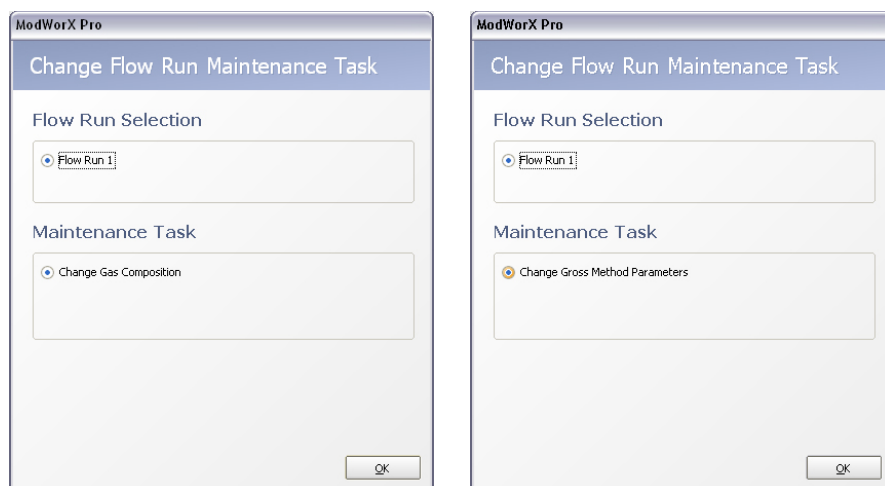

Figure 12.2
2. Click **Yes** at the Enter Maintenance Mode prompt. The Change Flow Run Maintenance Task screen will appear (Figure 12.2, page 168). The maintenance task displayed will vary, depending on the fluid property calculation method selected. For example, when calculating gas flow with the AGA-8 Detail method is used, the maintenance task will be “Change Gas Composition.” When the AGA-8 Gross method is used, the maintenance task will be “Change Gross Method Parameters.”
1. If Change Gas Composition is not displayed in the Maintenance Task field at the top of the Maintain Flow Run screen, click on **Change Task**. The Change Flow Run Maintenance Task dialog will appear (Figure 12.2, page 168).